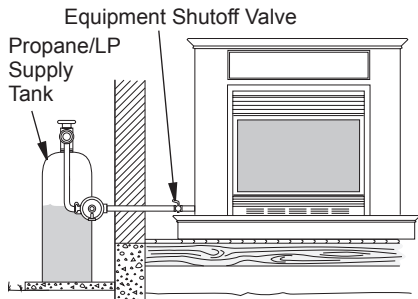

Figure 23 - Checking Gas Joints Shown with Optional Mantel (Propane/LP Gas)
off valve (see Figures 23 and 24). Apply a noncorrosive leak detection fluid to gas joints. Bubbles forming show a leak.
4. Check all joints from equipment shutoff valve to thermostat gas valve (see Figures 23 and 24). Apply a noncorrosive leak detection fluid to gas joints. Bubbles forming show a leak.